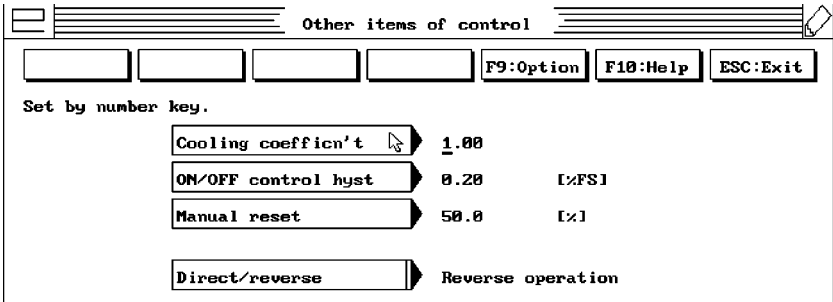

Figure 17
3. From the **Other items of control** menu, select **Cooling coefficn't** and key in the appropriate value for your system (Figure 17).